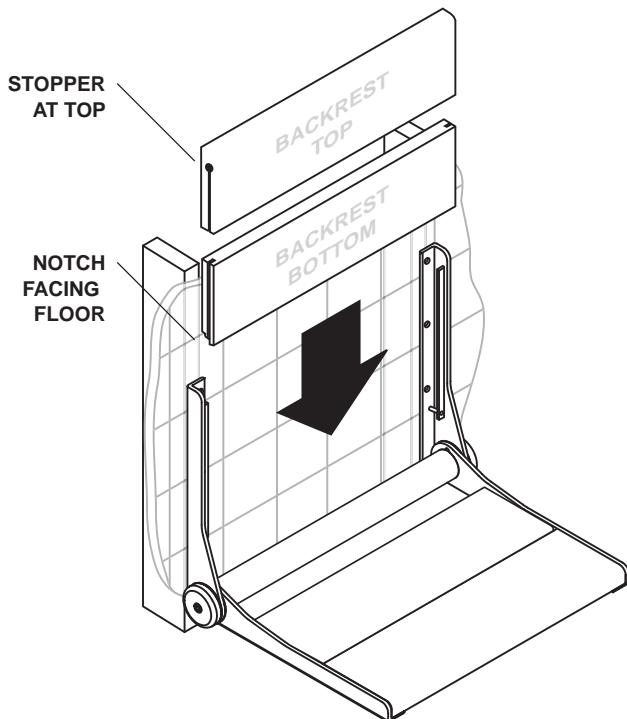

Figure 1.
**A1.** Identify the horizontal and vertical location of the SerenaSeat™. Specifically, identify the location of the top hole on one side of the wall bracket as shown in of **Figure 1 (a)**.
**A5.** Once attached, use level as shown in **Figure 1 (b)** to ensure seat is straight. Identify the location of the top hole on the opposite wall bracket. **IMPORTANT:** Ensure distance between the wall brackets allows for easy sliding of the back rest panels (do not cause brackets to bend inwards).
1. Choose optimal mounting location of seat including height (\*H) and side to side location (L) as shown in **Figure 1**. **NOTE:** If accessing the bathroom wall from the backside, transfer the measurements for the support rail location to the backside wall as shown in **Figure 1b**. Mark the height and location on the wall for future reference.
2. Find wall support studs & cut hole in wall board to expose wall studs as shown in **Figure 1**. Suggested hole size is height (A) of 18-24" (48-61cm) and width (B) corresponding to wall stud spacing. Expose half width of each stud to facilitate re-installation of wall board patch. **IMPORTANT: Avoid any utilities located in wall!**